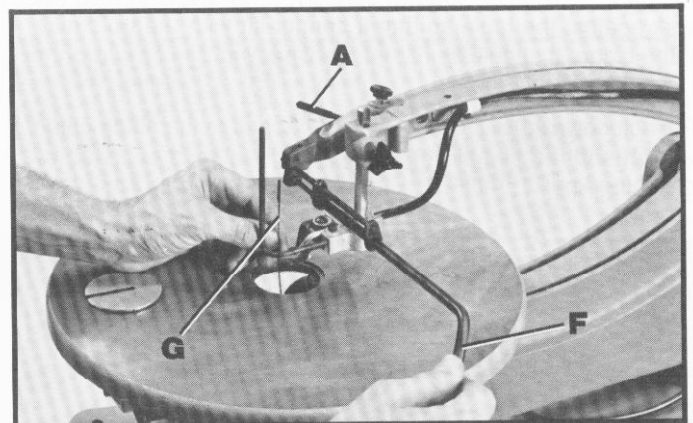

Fig. 17
4. Turn handle (F) Fig. 17, of blade changing wrench counterclockwise to loosen blade holder screw and remove blade (G).